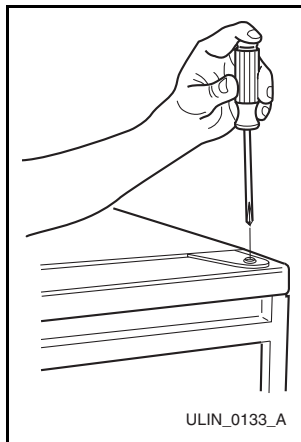

Figure 16
2. Remove the top hinge pivot pin with a Phillips screwdriver (**Figure 16**) and lift door off bottom hinge pin. Be careful not to lose the door closer insert sets.